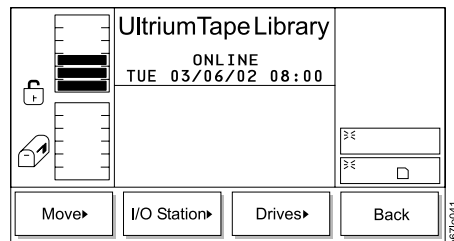

Figure 370. Command Menu
1. From the Main Menu's initial screen, press the button below the **Command** softkey. The Command Menu displays (see Figure 370).